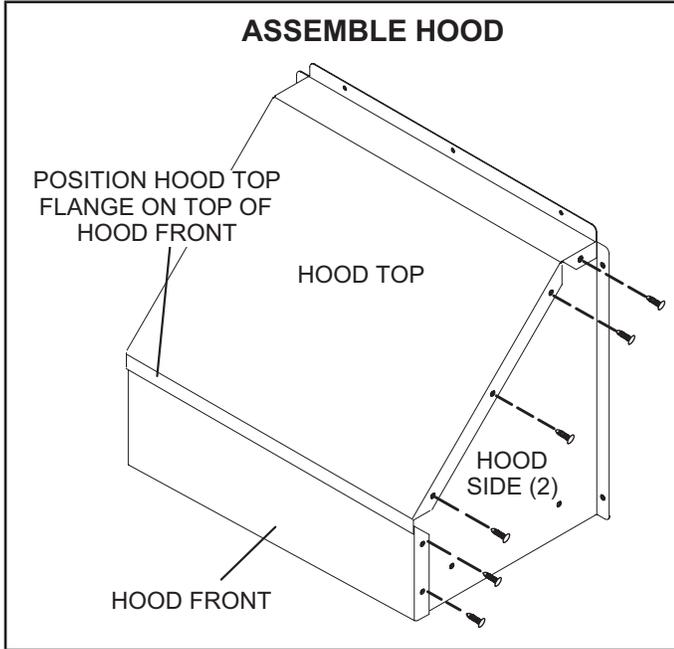

FIGURE 14
- 1 - Assemble hood as shown in FIGURE 14.